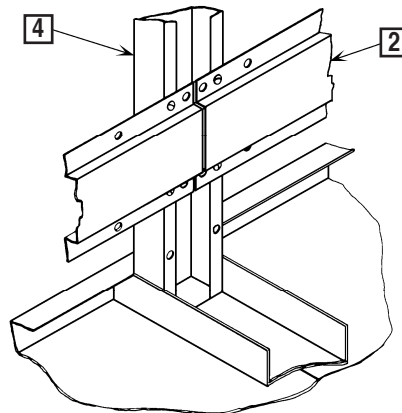

FIGURE 9
- The stringer (Item 2) is to be attached to the legs along the back edge of unit. (BOR-ROUGHS is stamped on the front edge of unit). Position stringer so that the second set of holes are in line with the two holes in the inside of the leg. Fasten stringer to leg with (2) screws and weldnuts (Items 6 & 8) as provided. The second stringer is to be fastened to the other side of the leg in the same manner. See Figure 9. The other ends of the stringers are attached as stated in Step 4 of the Basic Work Bench instructions (see page 2). Tighten screws holding leg weldments and attachment channels together.